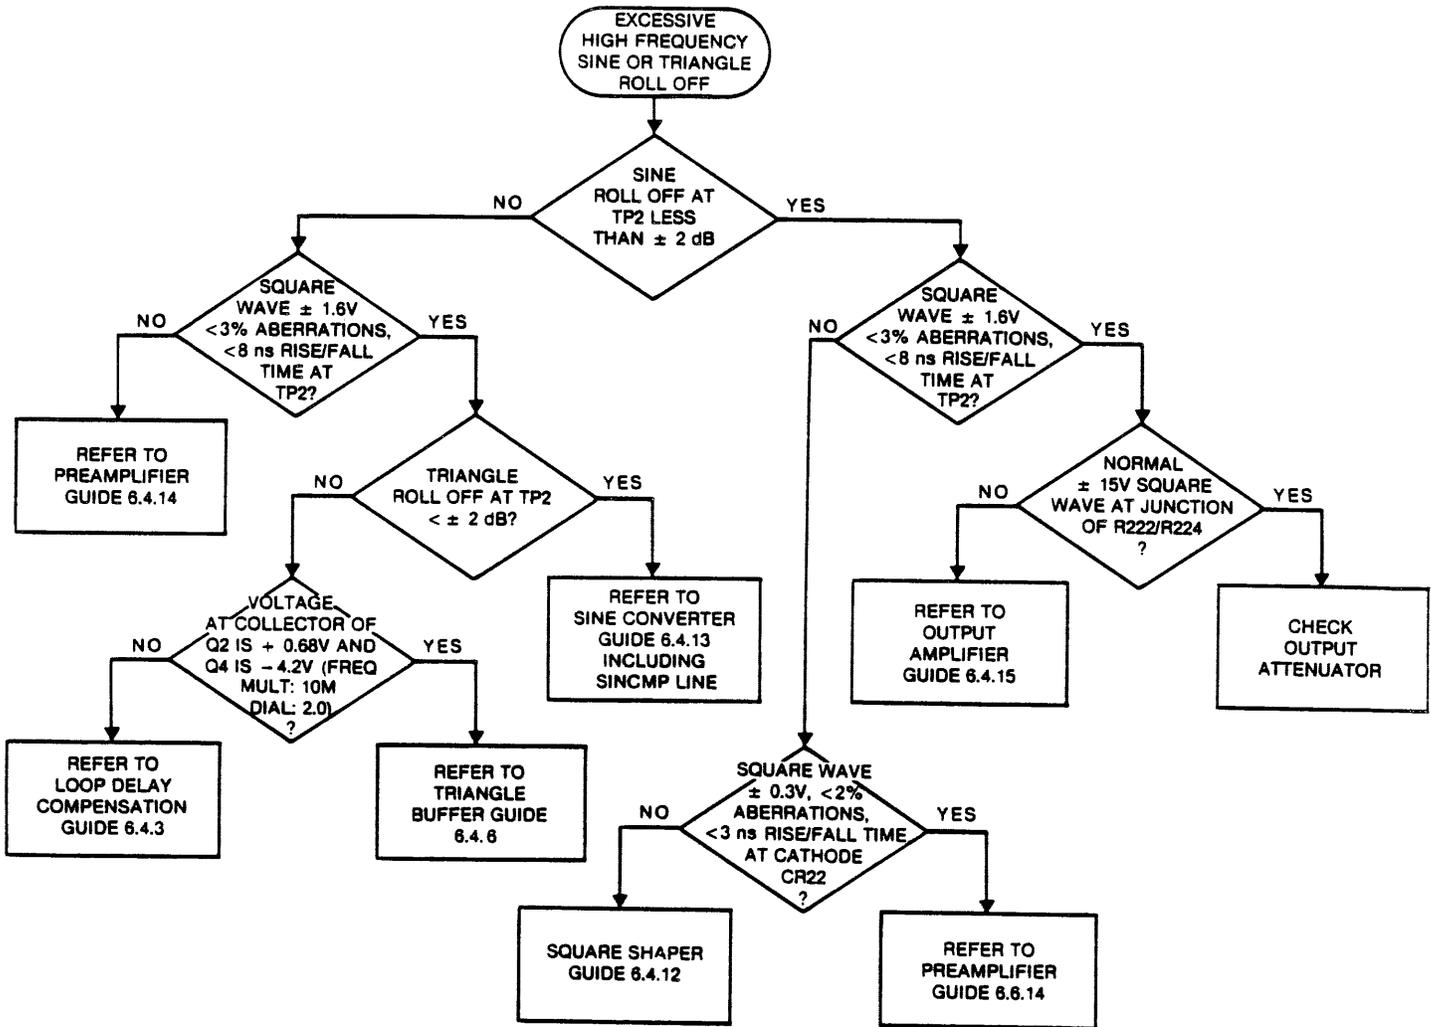

Figure 6-5. High Frequency Waveform Troubleshooting
2. If none of the above conditions apply, refer to figure 6-5.